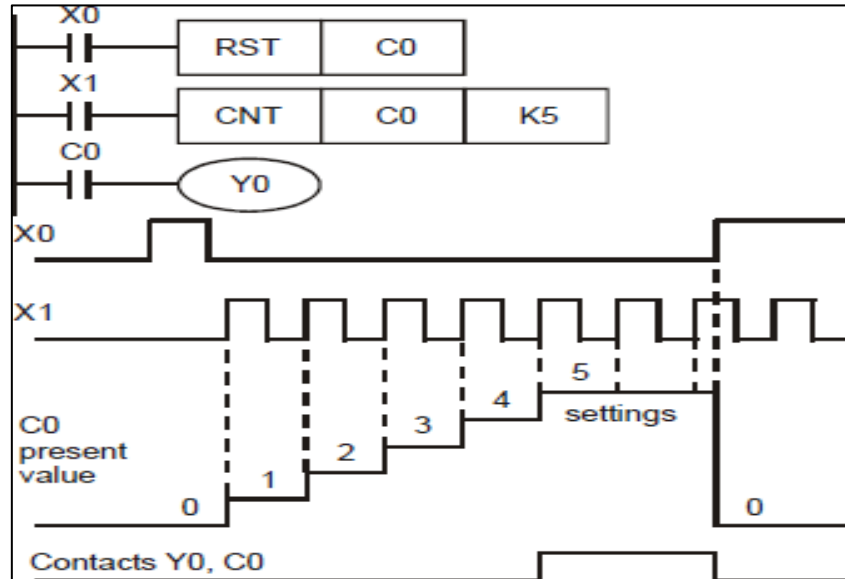

Fig.9 Counter operation using Programmable Logic Controller
1. Compare the results of Up counter operation for fig.9 using ladder diagram in terms of concepts.